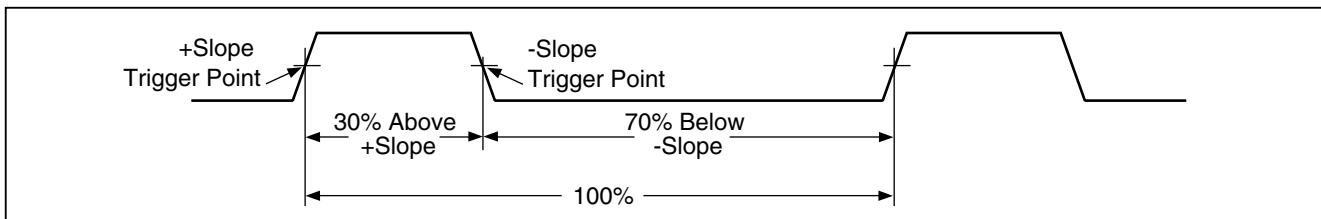

Figure 9. Components of Duty Cycle Measurements
To measure frequency, connect the Meter to the signal source; then press  . Pressing  switches the trigger slope between + and -, as indicated by the symbol at the left side of the display (refer to Figure 9 under "Measuring Duty Cycle"). Pressing  stops and starts the counter.
Duty cycle (or duty factor) is the percentage of time a signal is above or below a trigger level during one cycle (Figure 9). The duty cycle mode is optimized for measuring the on or off time of logic and switching signals. Systems such as electronic fuel injection systems and switching power supplies are controlled by pulses of varying width, which can be checked by measuring duty cycle.
2. Press  a second time to measure the signal's duty cycle. Press  to select a measurement of the signal's positive or negative pulse, refer to Figure 9.